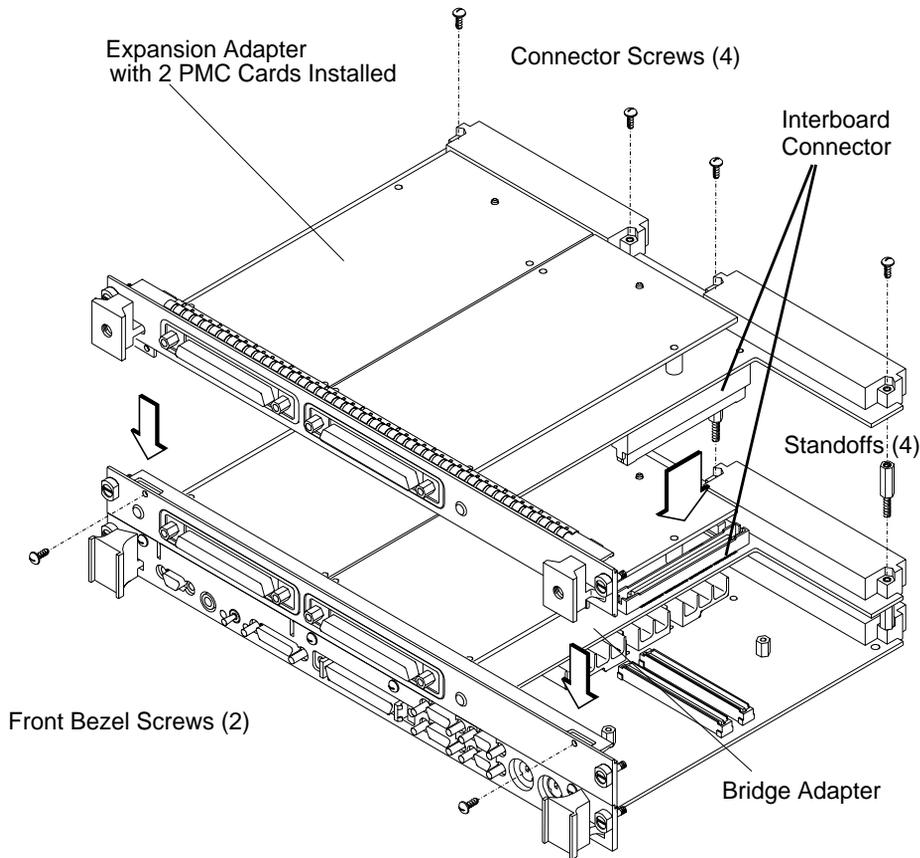

Figure 2-10
- 12 Making sure that the connector and bezels are properly aligned, install the PMC expansion adapter onto the bridge adapter, as shown in Figure 2-10. Ensure that the interboard connector seats properly by applying pressure to the top of the expansion board and to the bottom of the bridge board. You may have to remove memory cards to access the underside of the bridge board. There are two screws that secure the front bezel, four standoffs between the VME connectors, and four screws to secure the VME connectors.